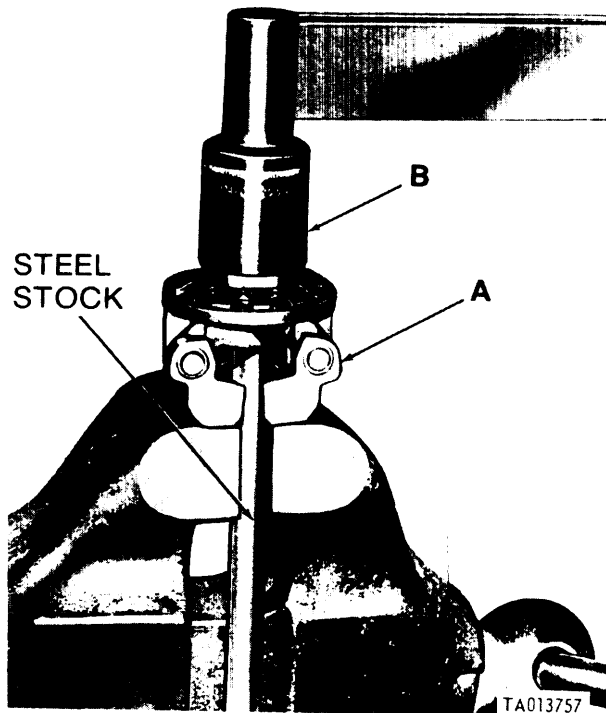

Figure 3-90. Removing or installing spring disk adjusting nut.
(1) Before any disassembly of the friction drive assembly, check clearance between the governor weight pin and weight pin bushing using a dial indicator. Maximum allowable clearance is 0.003 - inch with weights in their outermost position. If clearance is greater than 0.003-inch, replace the complete governor weight and spider assembly.
(2) Refer to figure 3-90. Place friction drive spider (A) on a piece of 3/8 x 3/4 steel stock held in vise. Remove spring disk adjusting nut using socket wrench (B).
(2) Refer to figure 3-90. Position governor weight assembly in vise using 3/8 x 3/4-inch steel bar stock as shown. Tighten hub nut to 80-85 foot-pounds. Remove friction drive spider and governor weight assembly and bar stock from vise.